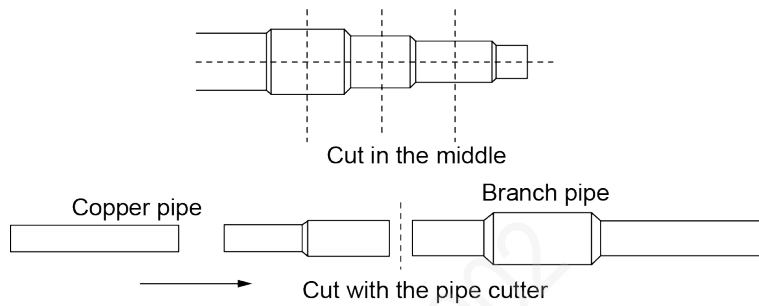

Fig.4.2.9
- (3) Manifold has several pipe sections with different pipe size, which facilitates to match with various copper pipe. Use pipe cutter to cut in the middle of the pipe section with different pipe size. See the Fig.4.2.9 as below.